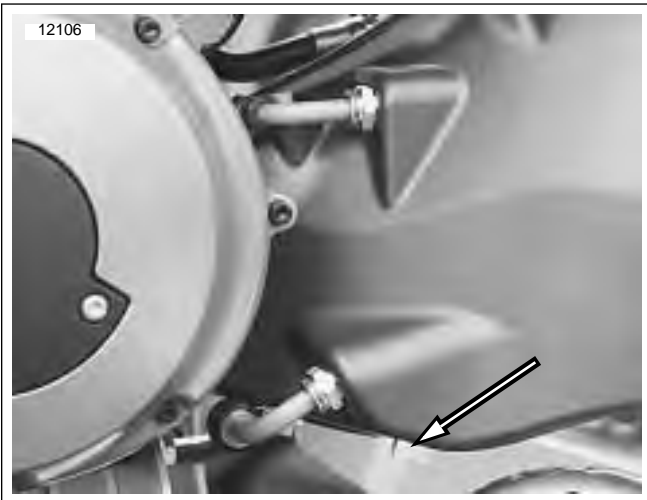

Figure 1-5. Oil Tank Drain Plug
1. See Figure 1-5. Place a suitable container under the drain plug.